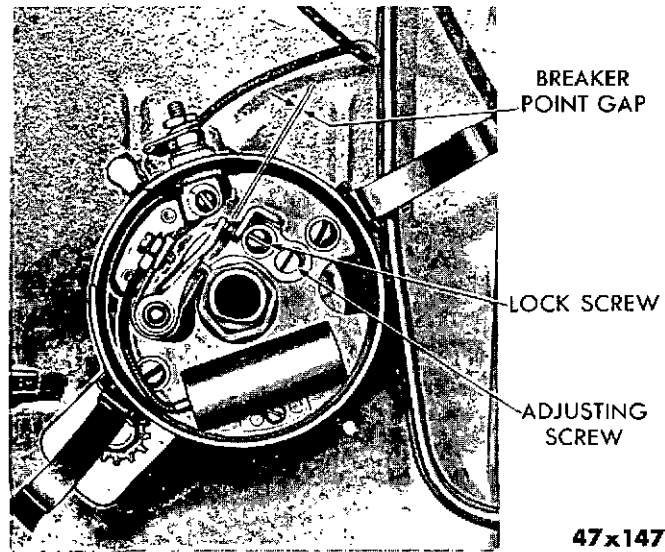

Figure 47 — Distributor Breaker Point Adjustment
**DISTRIBUTOR CONTACT POINTS (Figs. 47 and 48.)** In order to maintain efficient operation, the contact points in the distributor must be adjusted properly.